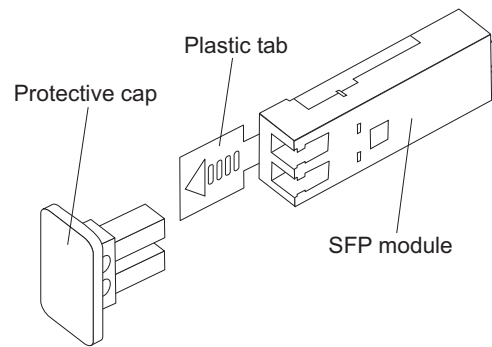

Figure 33. SFP module and protective cap
2. Remove the protective cap from the SFP module, as shown in Figure 33. Save the protective cap for future use.
2. If necessary, remove the protective cap from the SFP module, as shown in Figure 33 on page 59. Save the protective cap for future use.